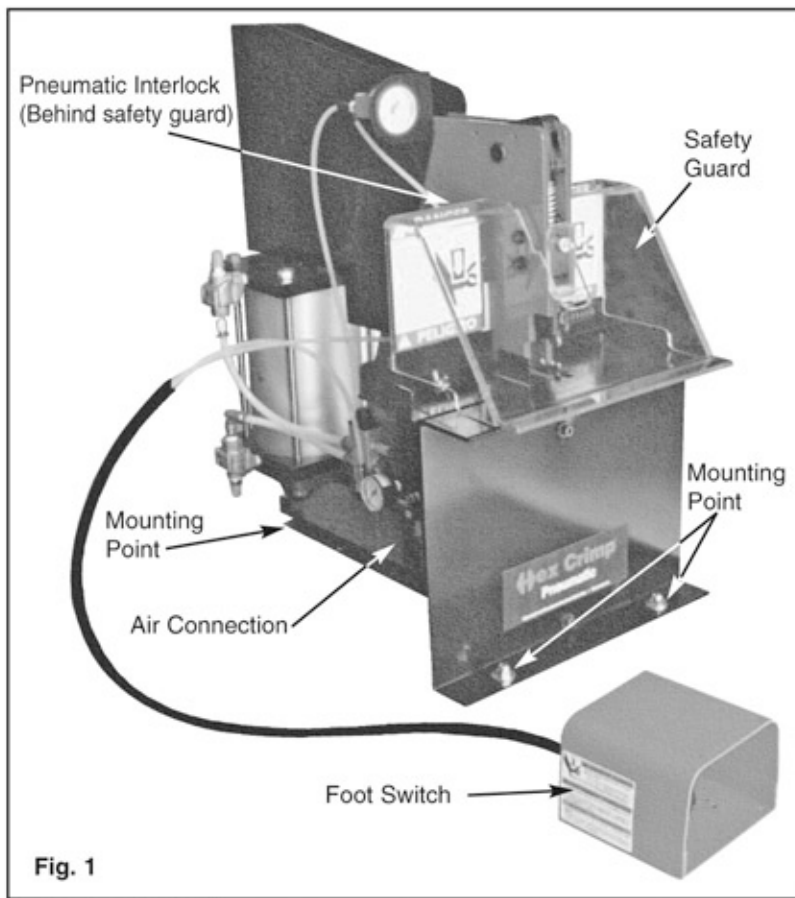

Fig. 1
3. Fasten the machine to the bench top with three 3/8" (10mm) diameter bolts and nuts at the three mounting points shown in Fig. 1. Use flat washers above and below the bench to distribute the working loads
1. Connect your air source to the filter regulator using a 1/4" male NPT fitting (Fig. 1).
1. Disconnect air source before changing the dies or performing any other maintenance on this machine. (Fig. 1)